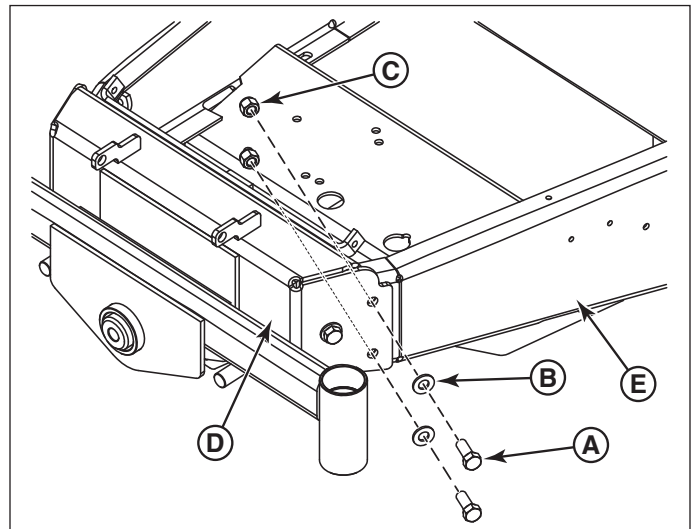

Figure 1. Tail Wheel Mount Hardware Removal
1. On the right side of the machine remove the front two (2) 1/2-20 X 1-1/4 bolts (**A**, **Figure 1**), 1/2 SAE washers (**B**), and 1/2-20 hex nylon lock nuts (**C**) that secure the tail wheel mount (**D**) to the frame of the unit (**E**). Discard this hardware.